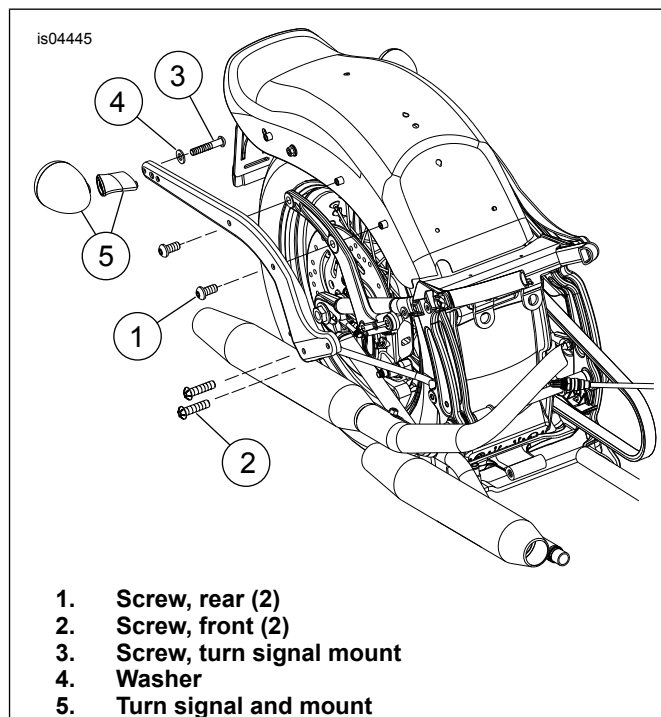

Figure 4. Fender Support Hardware
6. See Figure 4. Remove rear screws (1) from fender support.
7. Loosen but do not remove two front screws (2) from fender support.
9. Remove turn signal mount hardware (3, 4) from fender support then remove turn signal from mount (5).